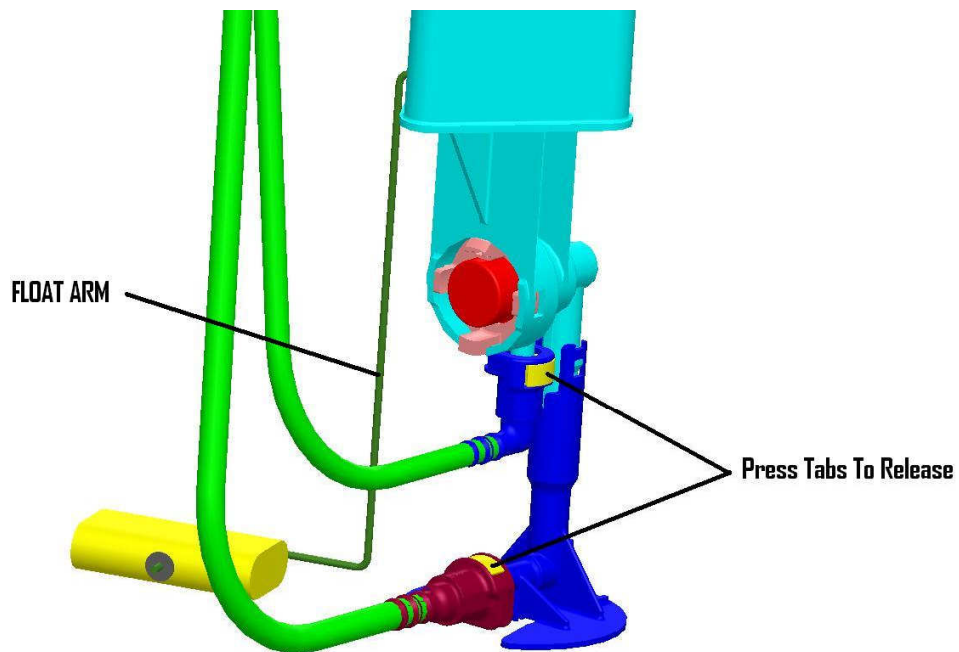

FIGURE 1-4
12. Carefully remove the float hanger as not to bend or damage the arm. There will be two fuel line connections towards the bottom of the hanger. These will be released by depressing the tabs. **FIGURE 1-4**